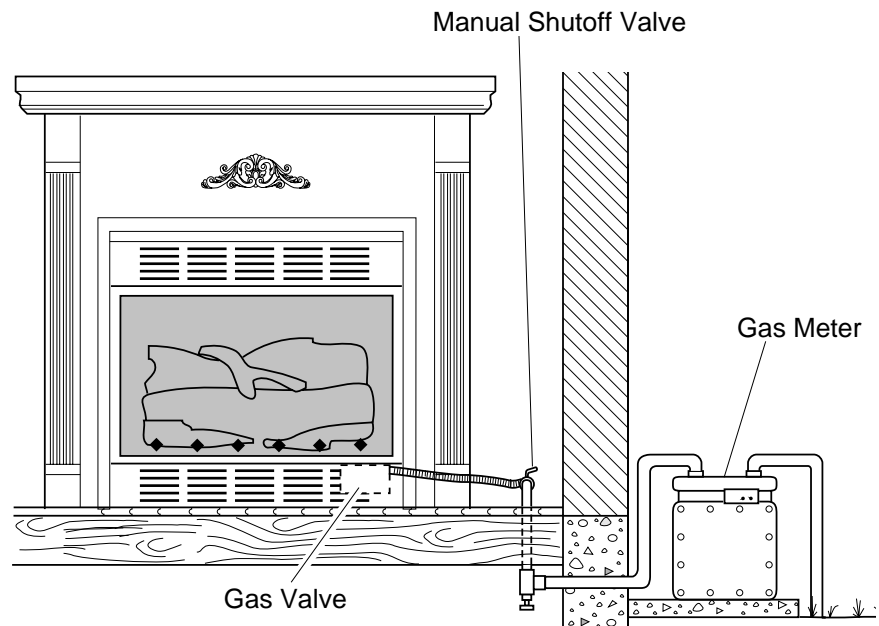

Figure 20 - Checking Gas Joints
3. Check all joints from gas meter to manual shutoff valve (see Figure 20). Apply mixture of liquid soap and water to gas joints. Bubbles forming show a leak.
4. Check all joints from manual shutoff valve to gas valve (see Figure 20). Apply mixture of liquid soap and water to gas joints. Bubbles forming show a leak.